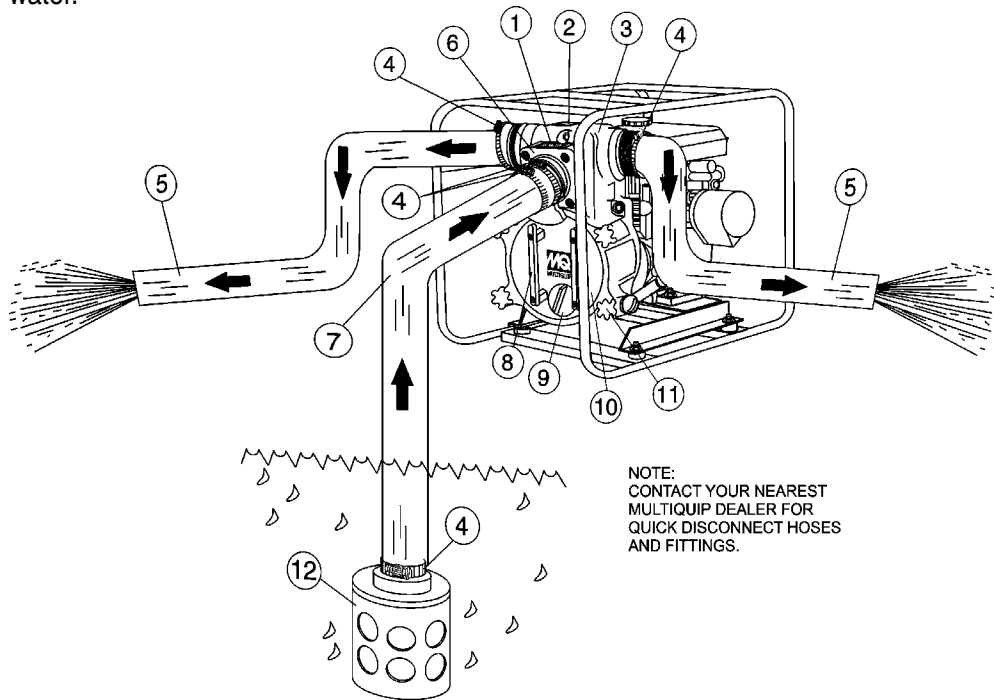

Figure 3. QP3TH Pump Application
Figure 3 shows a typical application using the QP3TH centrifugal pump. Please note that this pump is intended for the removal of clean water.
2. To prime pump, remove fill cap (See Figure 3) and fill pump casing with water. If the pump casing is not filled with water before starting, it will not begin pumping.
3. Attach suction and discharge hoses to the pump. Check that all hoses are **securely** attached to the pump. Make certain suction hose (See Figure 3) does not have any air leakage. Tighten hose clamps and couplings as required.
6. Check that the **discharge** hose (See Figure 3) is not restricted. Place hose so that it lays as straight as it is possible on the ground. Remove any twists or sharp bends from hose which may block the flow of water.
8. Make sure the **suction strainer** (See Figure 3) is clean and securely attached to the water end of the suction hose. The strainer is designed to protect the pump by preventing large objects from being pulled in to the pump.